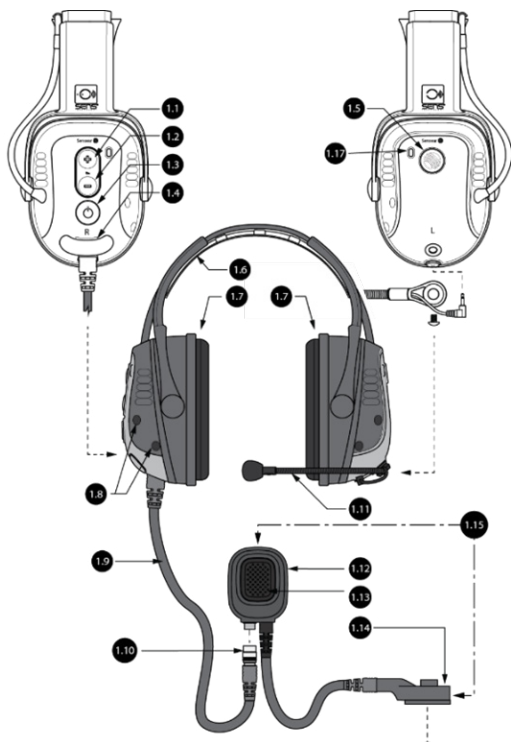

FIGURE 1
2. Connect the correct Sensear Intrinsically cable that is compatible with the specified two-way radio via the accessory connection provided on the two-way radio. Consult your two-way radio guide if you are unfamiliar with the location of this connection for accessories. Reference Figure 1 for the proper end of the two-way radio to connect to the two-way radio.